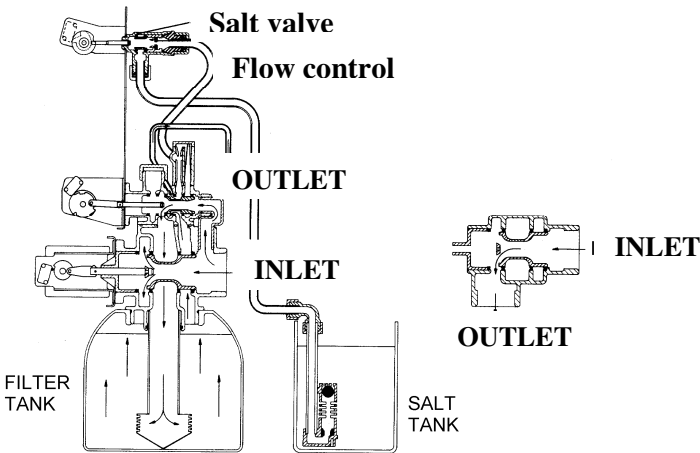

Figure 7
3. Connect the electric cables to the wall socket outlet. Turn the dial slowly clockwise until the valve motor(s) starts and remains standing in next position: backwash. Check that the cylinder units are positioned as shown on figure 7 page 12.